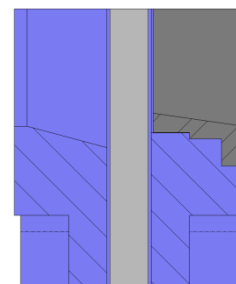

fig. 5
- **Seat 1:** Metal / metal seal (fig. 5). This type of seat includes a resilient seal which is fixed to the inside of the body by way of a reinforced ring with two functions (to protect the valve from abrasion and to clean the gate when working with solids that can stick to the gate); this ring can be removed and easily replaced. The estimated leakage (considering water as the test fluid) is 1.5% of the flow in pipes.